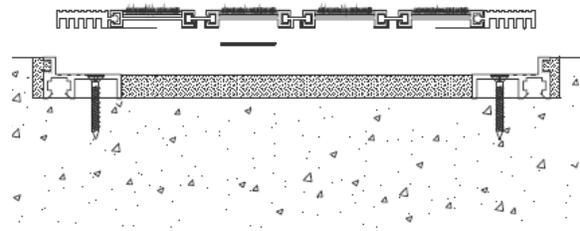

Figure 11
STEP 20. Select the flexible lock strips. Peel the backing from the flexible strip portion of the fastener, and press the strip onto the bottom of the mat tread (see Figure 11). Ensure that the strip will not interfere with the frame.